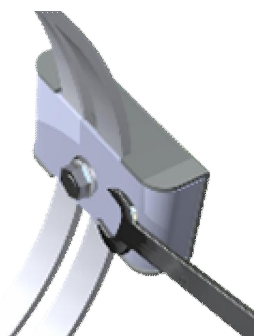

Fig. 12 - Locking the Yoke Bolt Into Position
Refer to figures 12, 13, 14 and 15 and tables 1 and 2 when following these aiming procedures.
- Once in position, use an open-ended wrench and tighten the yoke bolt firmly to lock the yoke into position (see figure 12).